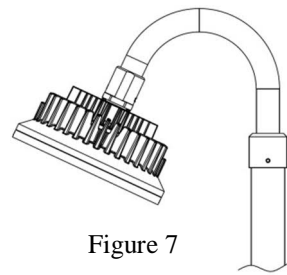

Figure 7
- ☞ Tighten tube locking setscrew to conduit, 1.0 N-m. (Figures 7, 8)